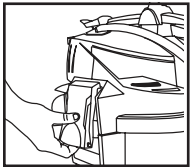

FIGURE 3
5. Replace the tank cover. Lift latches up and place in the grooves on the cover as shown in **FIGURE 3.** Push in on bottom of latches to lock in place.